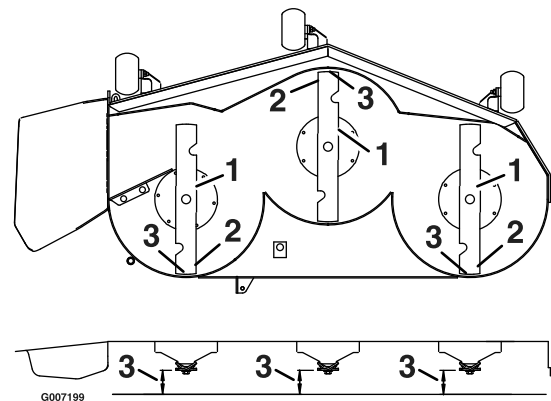

Figure 39
1. Rotate the blades until the ends face forward and backward (Figure 39). Measure from a level surface to the cutting edge, of the blades. Note this dimension.